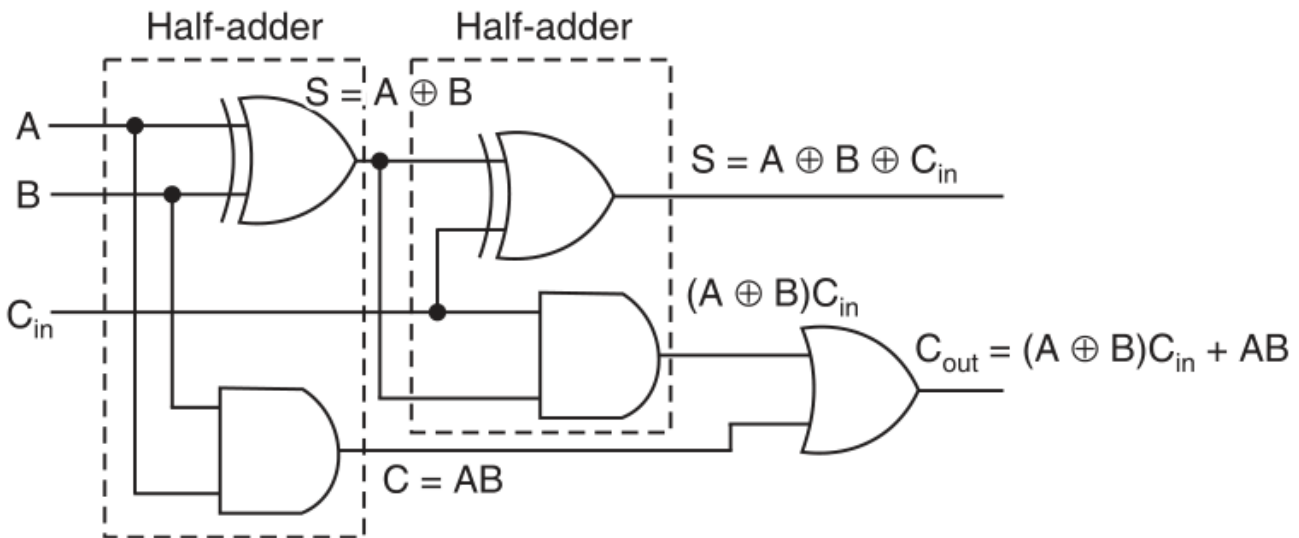

Figure 7.7 Logic diagram of a full-adder using two half-adders.
• **Realization Using Two Half Adders (Kumar, p. 361, Figure 7.7):**